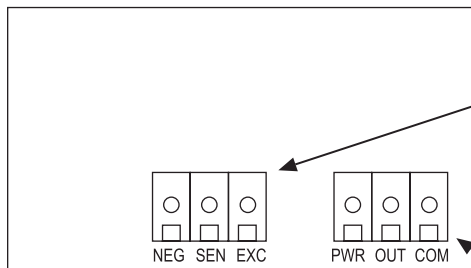

Figure 7
- The temperature transmitter comes with the temperature sensor pre-wired to the transmitter board. If removal is required for installation then it may be re-wired as shown in Figure 7.